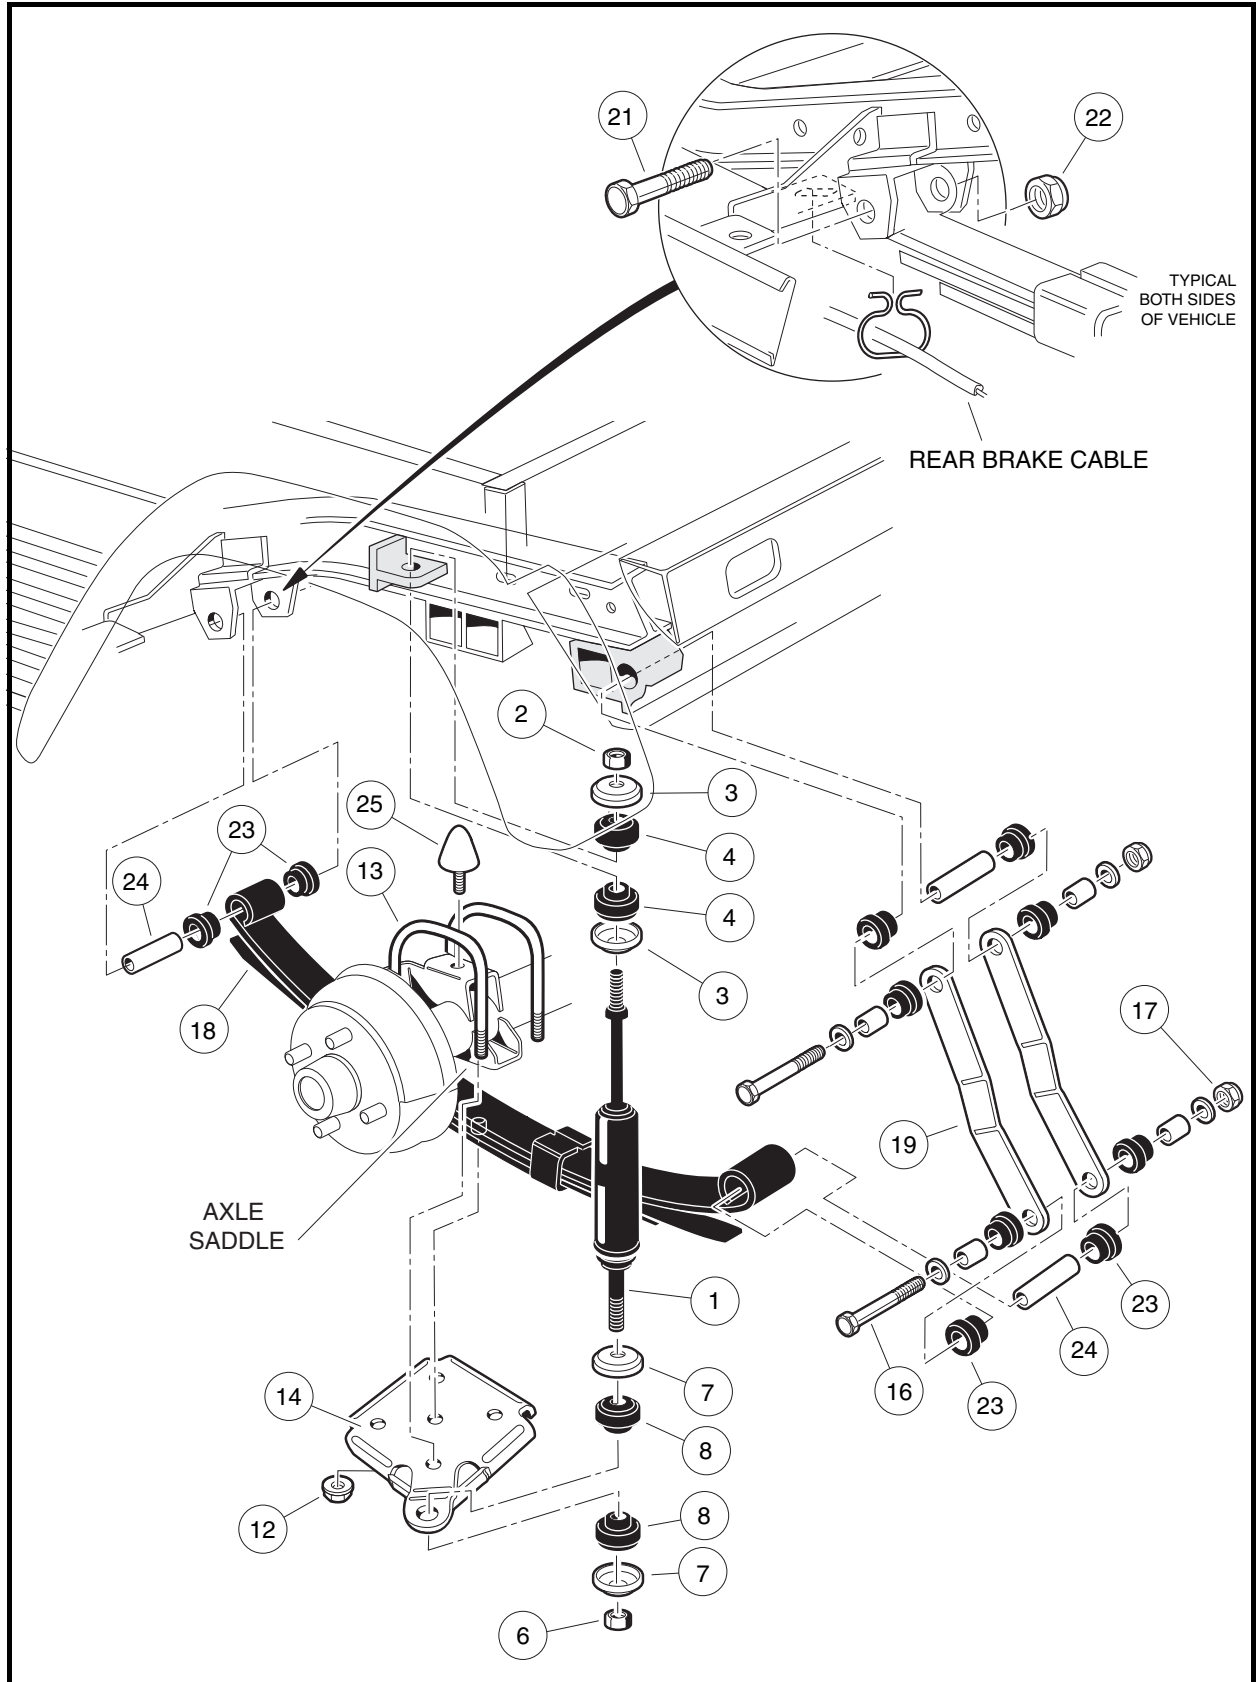

Figure 9-1 Rear Suspension for MC012C-BS00 Transaxle
1. Check shock absorbers (1) for damage or fluid leakage around the housing and replace if necessary (**Figure 9-1, Page 9-2**).
2. Remove the nut (2), cup washers (3) and rubber bushing (4) from the upper shock absorber stem.
2. Tighten nut (2) until rubber bushings (4) expand to the same diameter as the cup washers (3) (**Figure 9-1, Page 9-2**).
3. Install mounting hardware and tighten the nut (6) until the rubber bushings (8) expand to the same diameter as the cup washers (7).
7. Remove the locknuts (12) attaching the U-bolts (13) to the shock mount bracket (14) (**Figure 9-1, Page 9-2**).
8. Remove bolt (16) and locknut (17) attaching the leaf spring (18) to the rear shackles (19).
9. Allow rear of leaf spring (18) to rest on the ground and remove the bolt (21) and locknut (22) attaching the front of the spring to the vehicle frame. Remove spring from vehicle.
10. Inspect the rubber bushings (23) and steel sleeves (24) in the spring eyes and replace them if they are worn or damaged.
1. Install rubber bushings (23) and steel sleeves (24) into leaf spring eyes (**Figure 9-1, Page 9-2**).
2. Place front of leaf spring (18) into front mounts and insert grade-eight bolt (21) through mount and leaf spring eye. Attach locknut (22) and tighten to 15 ft-lb (20.3 N·m). See following **CAUTION**.
3. Align opposite end of leaf spring with spring shackles (19). Insert bolt (16) through shackles and leaf spring eye. Attach locknut (17) and tighten to 15 ft-lb (20.3 N·m). Lower transaxle onto leaf spring (18) (Figure 9-1, Page 9-2). See following CAUTION.
- When placing transaxle on spring, be sure to position locating bolt on the spring in the center locating hole in the axle saddle (Figure 9-1, Page 9-2).
4. Install shock mount bracket (14) onto locating bolt of leaf-spring.
5. Install U-bolts (13) and locknuts (12) and tighten locknuts in a crisscross pattern to 35 ft-lb (47.5 N·m).